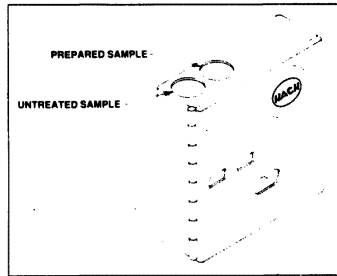

Figure 3
3. Insert the tube of prepared sample into the right top opening of the comparator (Prepared Sample Position in Figure 3).
4. Fill the other color viewing tube with an untreated water sample. Place it in the left top opening of the color comparator (Untreated Sample Position in Figure 3).
4. Fill the other color viewing tube to the 5-mL mark with an untreated water sample. Place it in the left top opening of the comparator (Untreated Sample Position in Figure 3).